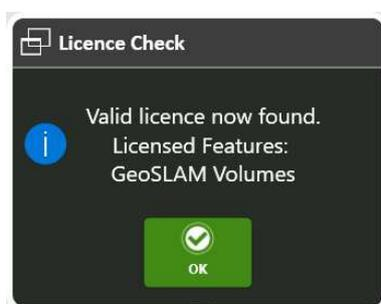

Figure 5. Valid license activation.
8. This will display the **License Check** dialog (Figure 5).